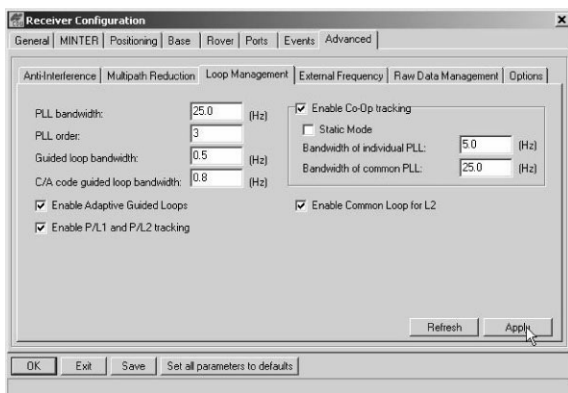

Figure 3-7. Advanced->Loop Management
- Click the **Advanced** tab, then the **Loop Management** tab, and configure the Rover with the following parameters, then click **Apply** (Figure 3-7):